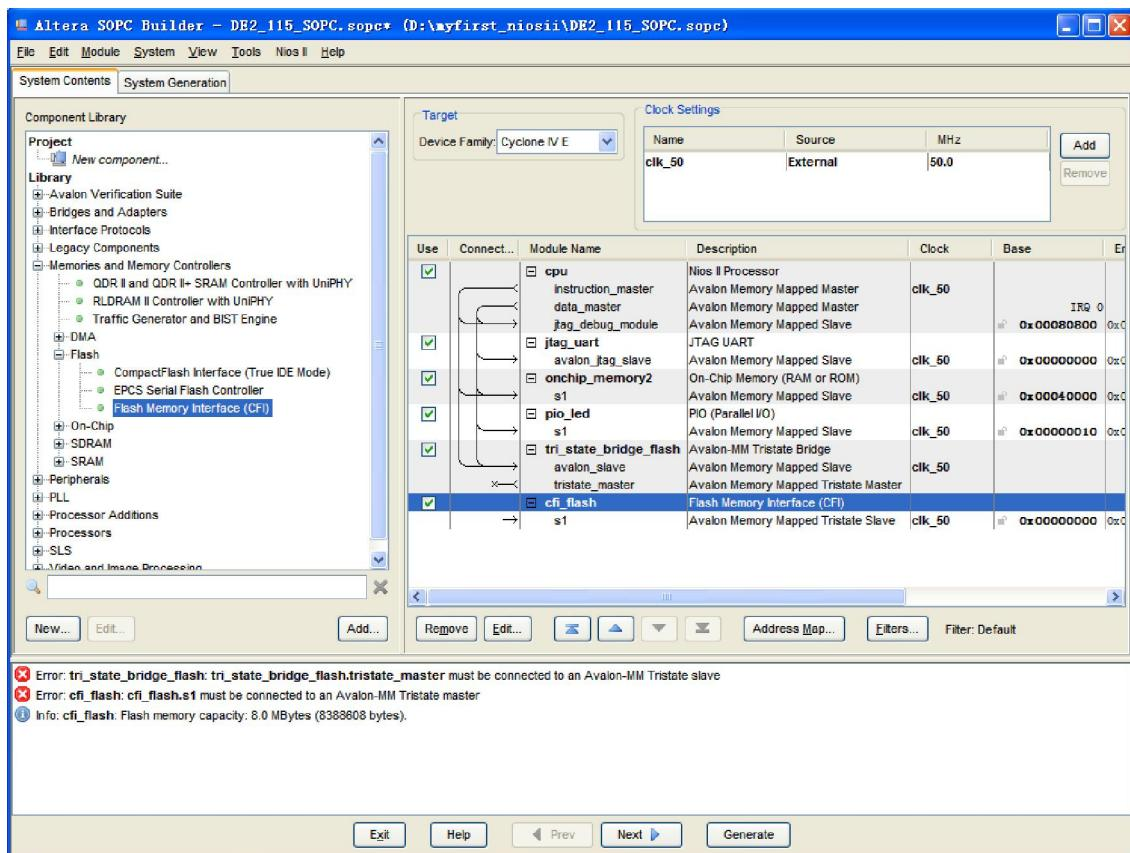

Figure 3-10 Rename Flash Memory Interface (CFI)
8. Rename Flash Memory Interface (CFI) as shown in **Figure 3-10**.